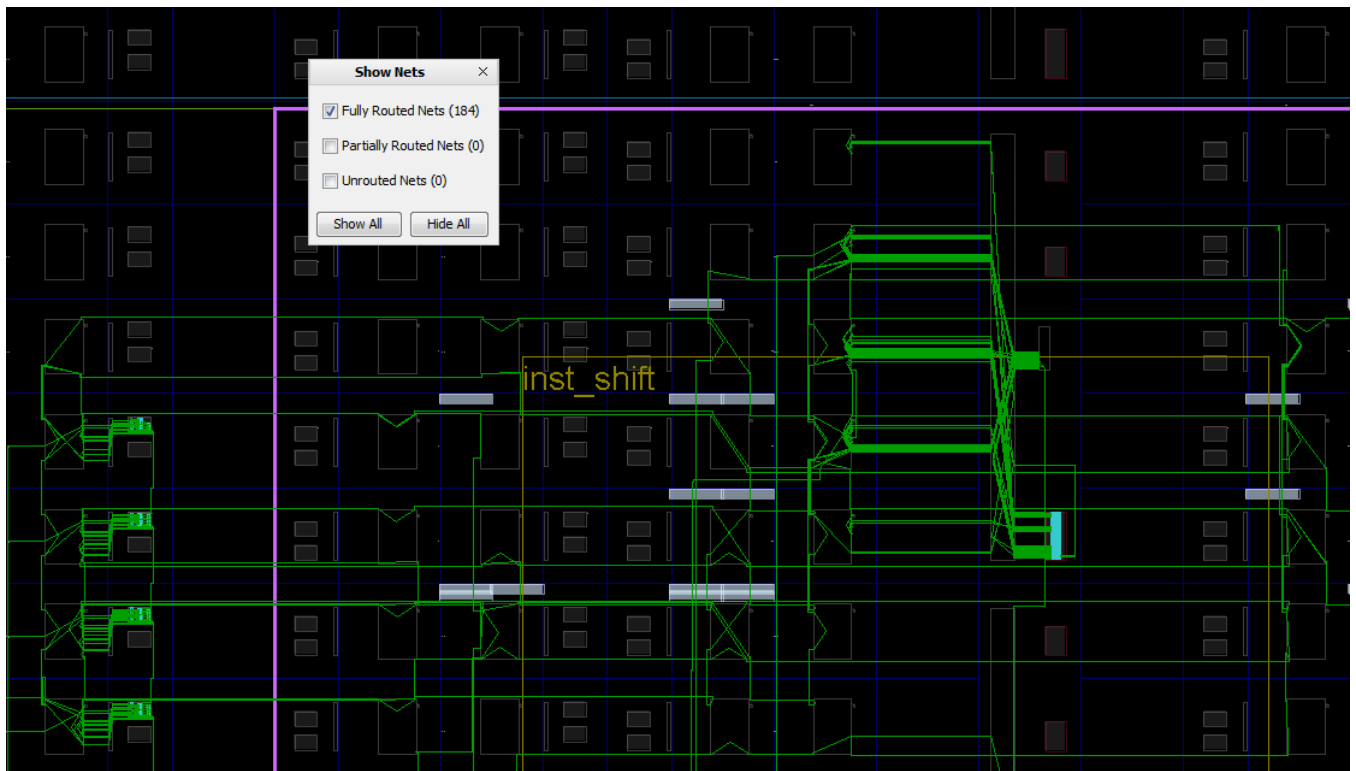

Figure 7: Close-up of First Configuration Routed
5. In the routed design view, click the **Show/Hide Nets** icon  to display all routes by type (Fully Routed, Partially Routed, or Unrouted), as shown in Figure 7. Use the Routing Resources icon  to toggle between abstracted and actual routing information, and to change the visibility of the routing resources themselves. All nets in the design are fully routed at this point.